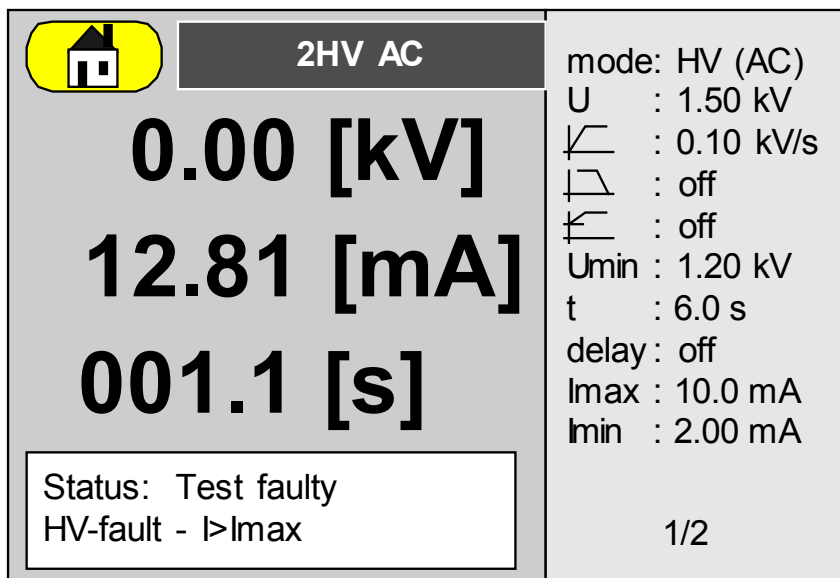

Fig. 10.30: Automatic test - test screen - result fault
**no** - interrupts the test run. The result of the test is "fault" now (see Fig. 10.30).